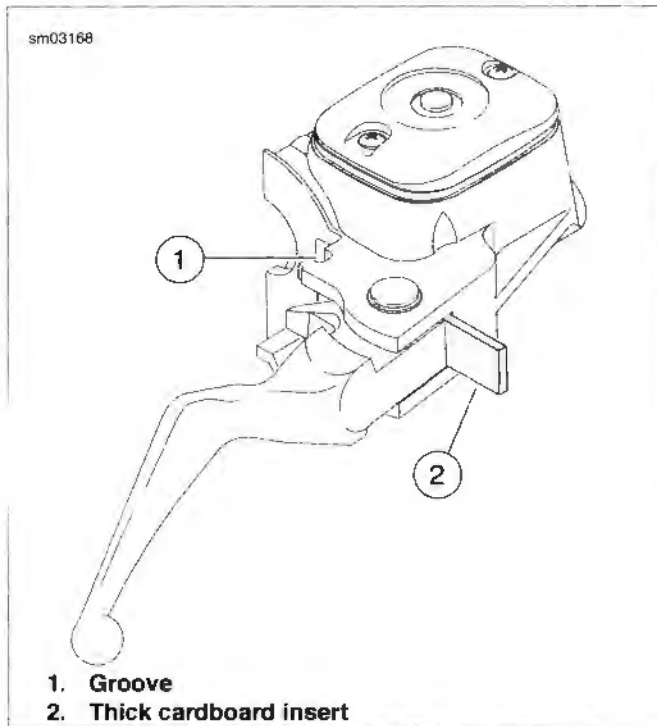

Figure 2-31. Cardboard Insert
3. See Figure 2-31. Place the cardboard insert between the brake lever and lever bracket.